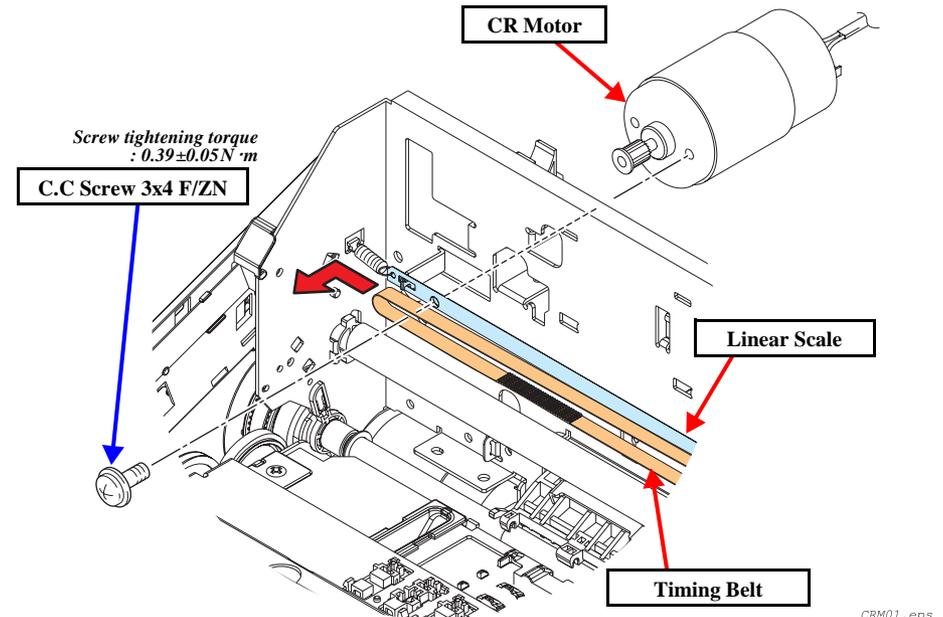

Figure 4-14. CR Motor Removal 2
3. Remove Timing Belt from CR Motor. (See Figure 4-14.)